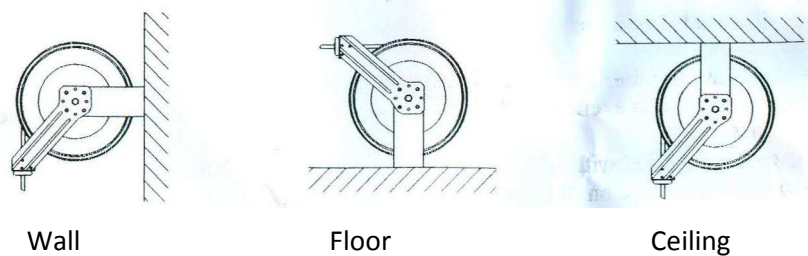

Figure 2.
4. The reel base has four 1/2" (or 12.7mm) drilled holes for mounting on a suitable flat surface. Figure 2 is a template showing the correct location of the 4 mounting holes in the base.
5. The reel is supplied with a hose guide roller bracket. The bracket position may be changed depending on the reel mounting position. Figure 2 shows "Typical Mounting Positions". If bracket position needs to be changed, do the following: